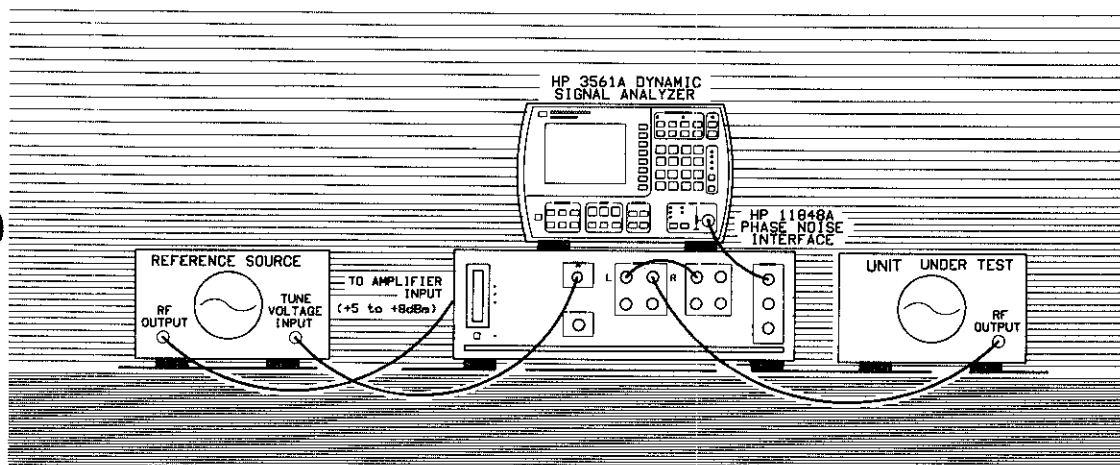

Figure 3-6. Setup Diagram for the Stable RF Oscillator Measurement Example.
3. When the Connect Diagram appears on the computer's display, connect the signal paths as shown in Figure 3-6. (Figure 3-6 differs from the Connect Diagram shown on the display.) Table 3-4 provides setup considerations that will help you ensure that your measurement results will be valid.